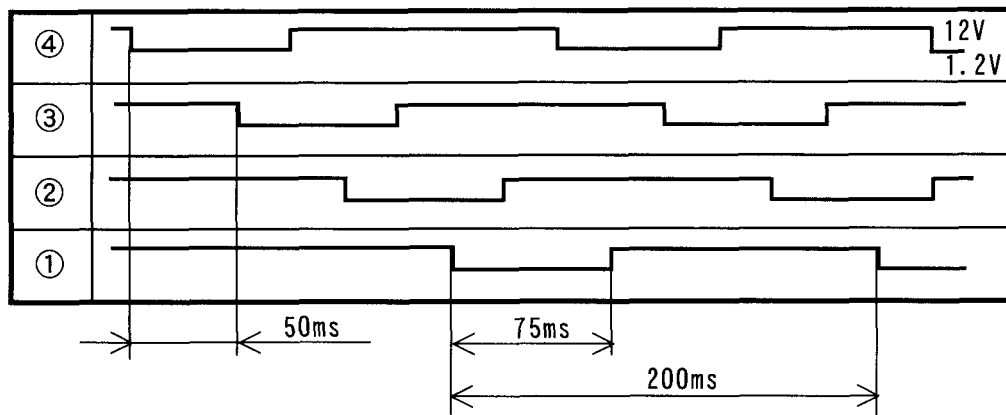

Fig. 9-2
- Fig. 9-2 shows logic waveform when expansion valve is operating.